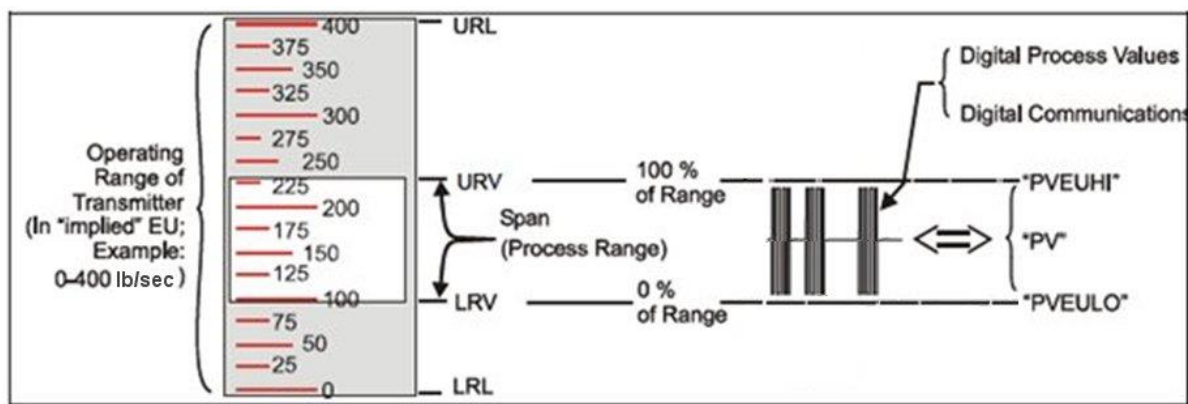

Figure 5 – DE Mode Value Scaling
Much of the operation in the Digitally Enhanced (DE) mode is similar to that of analog operation. The essential characteristics of DE transmitter are shown in Figure 5.
As indicated at the right of Figure 5, output values of process variables, as well as communications are transferred to a receiving device digitally. The digital coding is Honeywell proprietary, which requires the use of DE-capable Honeywell control equipment.